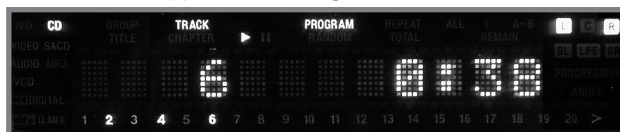

Figure 23
4. To start playback of the just entered program, press the PLAY ► Push-button. The Repeat Mode can be activated to provide continuous playback of the Programmed Track(s). Refer to figure 23.